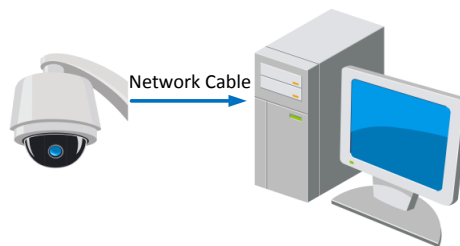

Figure 2-1 Connecting Directly
- To test the network mini PTZ camera, you can directly connect the network mini PTZ camera to the computer with a network cable as shown in Figure 2-1.